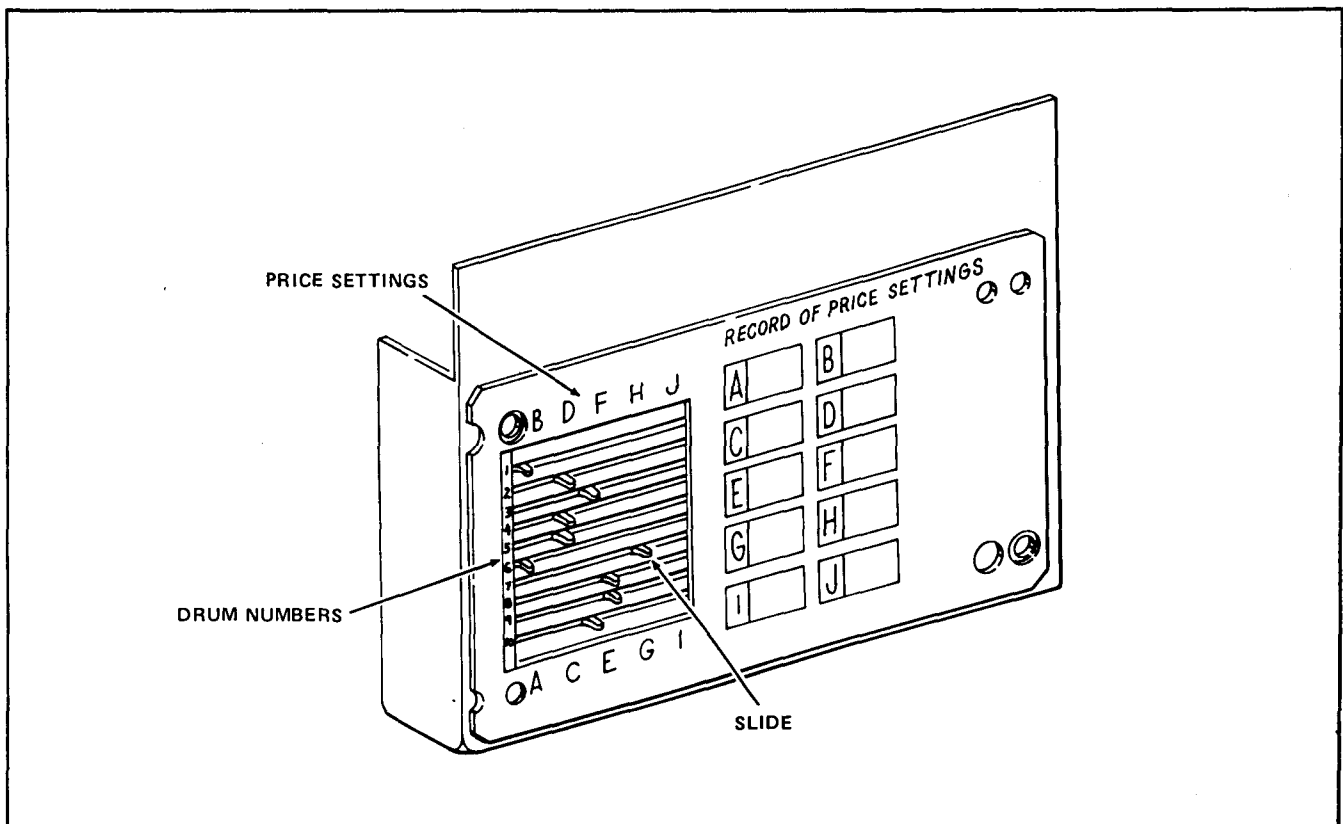

FIGURE 14
- d. Located on the Merchandiser Price Setting Board is a Record of Price Settings with ten squares, lettered A through J, arranged to correspond to the ten price setting switch groups. Mark all prices just set in the appropriate squares of the Record of Price Settings, using a non-abrasive marker. See Figure 14.
- a. Move the slide for Drum number one horizontally to the desired price setting, A through J. See Figure 14.
- b. Repeat Step 2-a for each remaining Drum. See Figure 14.